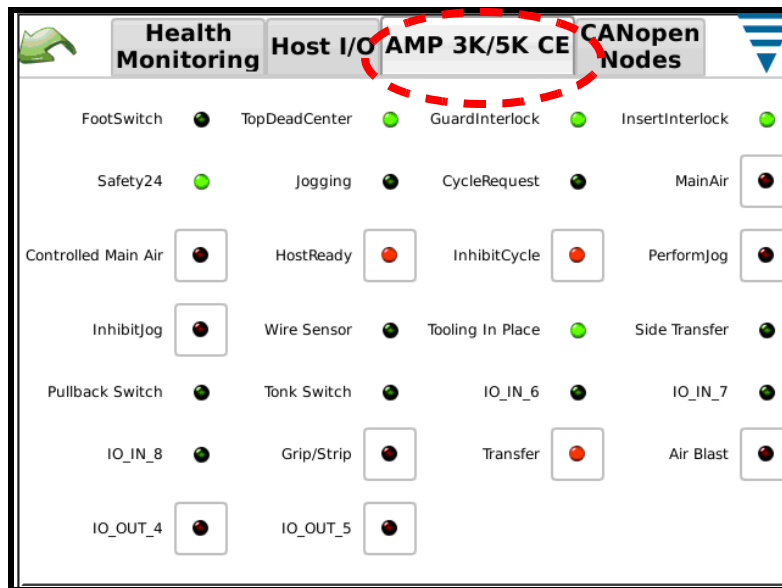

Figure 13
3. Touch the tab marked “AMP 3K/5K CE diagnostics tab”. See Figure 13